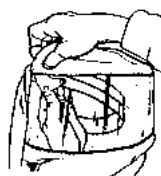

Figure 17
7. Snap 4 white buttons of suspension into 4 white buttons on hood. (Figure 17)